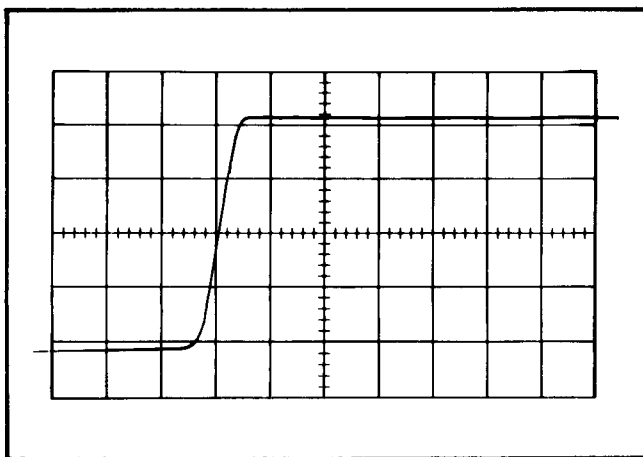

Fig. 5-7. Typical crt display showing correct high-frequency compensation.
- f. Check—Crt display for optimum square-wave response (see Fig. 5-7).
- i. Check—Crt display for optimum square-wave response (see Fig. 5-7).
- l. Check—Crt display for optimum square-wave response (see Fig. 5-7).
- p. Check—Crt display for optimum square-wave response (see Fig. 5-7).
- s. Check—Crt display for optimum square-wave response (see Fig. 5-7).
- v. Check—Crt display for optimum square-wave response (see Fig. 5-7).